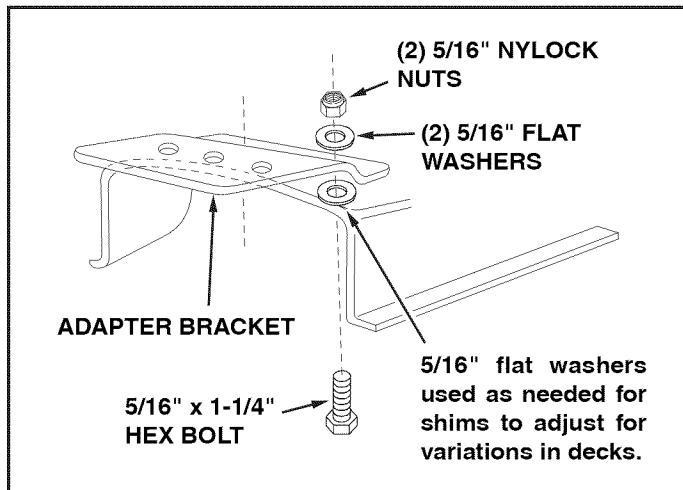

FIGURE 29
- Assemble the adapter bracket to the deck using two 5/16" x 1-1/4" hex bolts, 5/16" flat washers and 5/16" nylock nuts. See figure 29.
**NOTE:** It may be necessary to use extra 5/16" flat washers to shim under the bracket next to the deck surface. Ten extra washers have been furnished as shims. See figure 29.